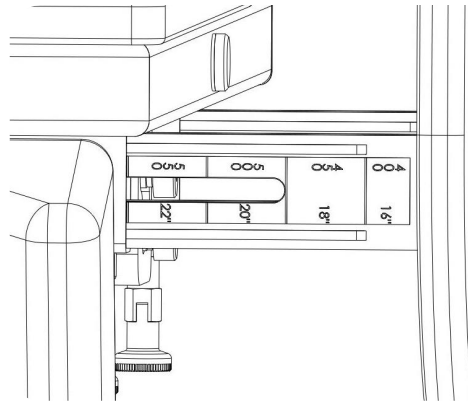

FIGURE 12
6. With two hands, pull or push the sidepiece until the desired measurement is achieved. The measurement can be read just inside the sidepiece at the front between the seat and the sidepiece (See Fig 12).